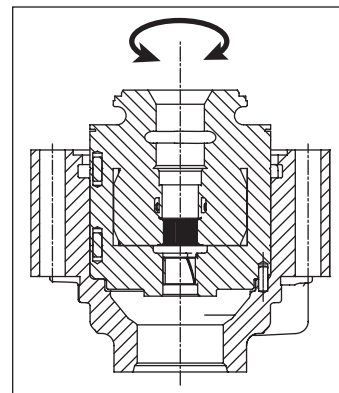

Figure 46
7. Check if the dowel pin is in its position in the housing by trying to rotate the cartridge (**Fig. 46**).